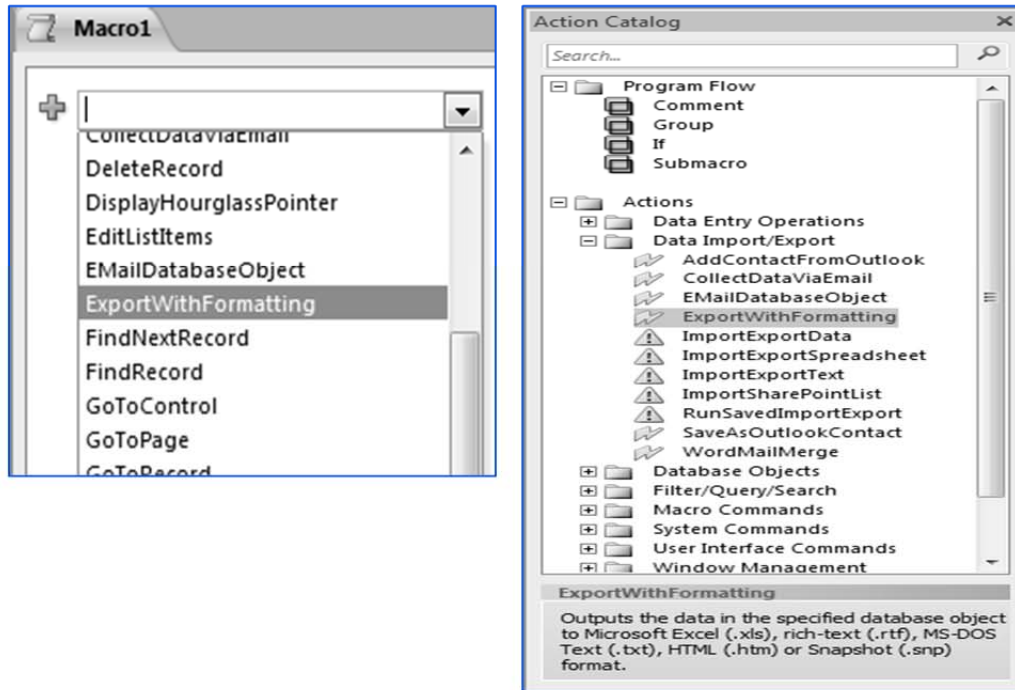

Fig. 4.2.5 : Select Export with Formatting Action
2. Click **AddNew Action** drop-down box → Select **ExportWithFormatting**. Note that the **ExportWithFormatting** option will also be available in Action Catalog. The *Macro Designer* window appears, as shown in Fig. 4.2.5.
4. Select the next action in the *Query Designer* window as *EmailDatabaseObject* and specify *Action Arguments*, as shown below in Fig. 4.2.5: